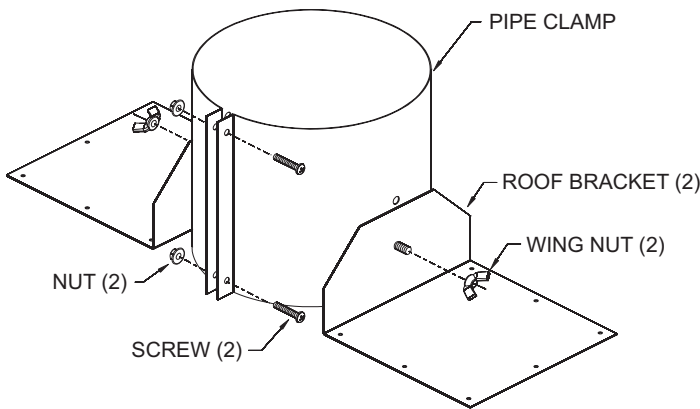

Figure 31
- While the venting is still on the floor, assemble the roof jack components as shown in **Figure 31** and pre-install the roof jack assembly to the hard pipe approximately 18" from the top end of the hard pipe.